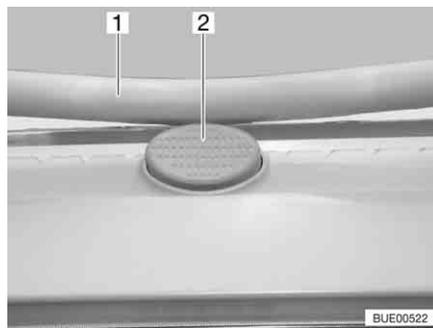

Fig. 57 Safety knob on the Heki skylight
- Press the safety knob (Fig. 57,2) and pull the bar (Fig. 57,1) down with both hands.
- Push the bar upwards with both hands until it is above the safety knob (Fig. 57,2).